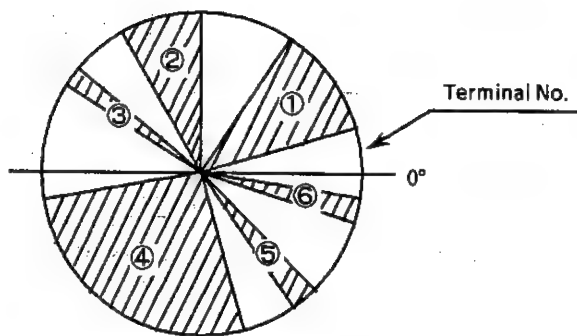

Fig. 3-1 Cam switch pattern
* The cam switch has the pattern as shown in Fig. 3-1. The circuit turns on when the signal comes on the shaded zones on the switch. The six pattern signals are judged to be on or off by the system controller in order to detect the mechanism modes.